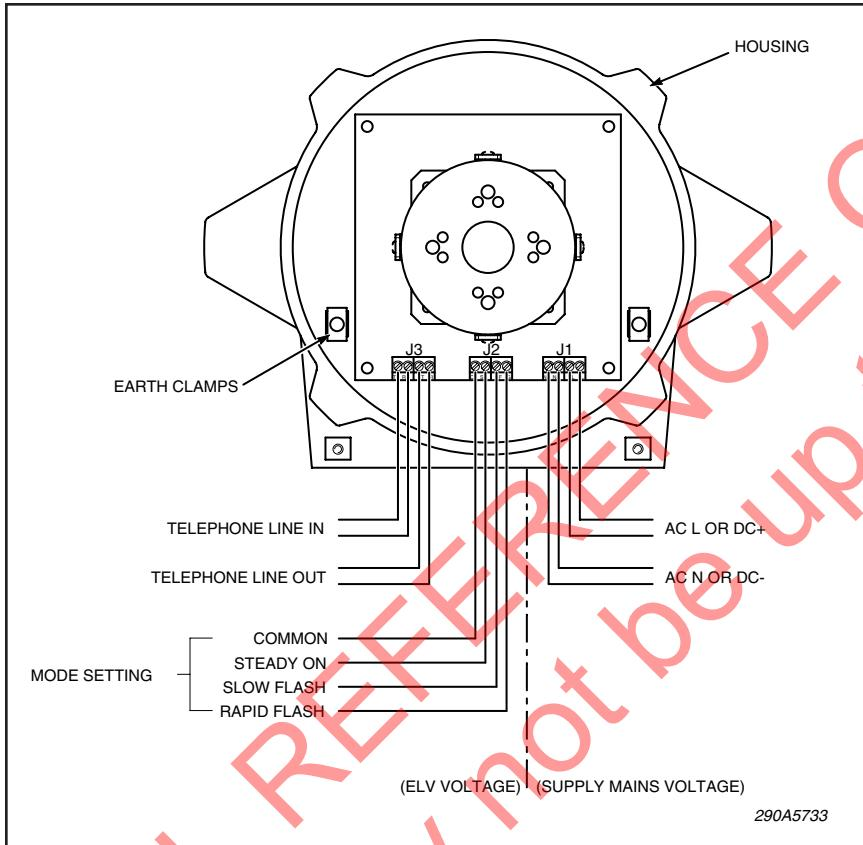

Figure 1.
- e. A series of four-pole screw terminal blocks are provided for field wiring. See figure 1 for wiring diagram. These terminals are rated for the following wire ranges: 24 to 12 AWG (0.25 to 4 mm²). Terminal tightening torque is 0.5 Nm. The power feed through terminals of J1 are rated for 300 V, 10 amps maximum. See section D for specific mode of operation wiring.
a. Connect power wiring to the J1 terminal block as indicated in Figure 1(Ex d) or 2 (Ex de). The supply power should not be switched as the remote contacts are used to activate the light.
a. Connect power wiring to the J1 terminal block as indicated in Figure 1(Ex d) or 2 (Ex de).
a. Connect power wiring to the J1 terminal block as indicated in Figure 1 (Ex d) or 2 (Ex de).
b. Connect telephone line wiring to the J3 terminal block as indicated in Figure 1 (Ex d) or 2 (Ex de).